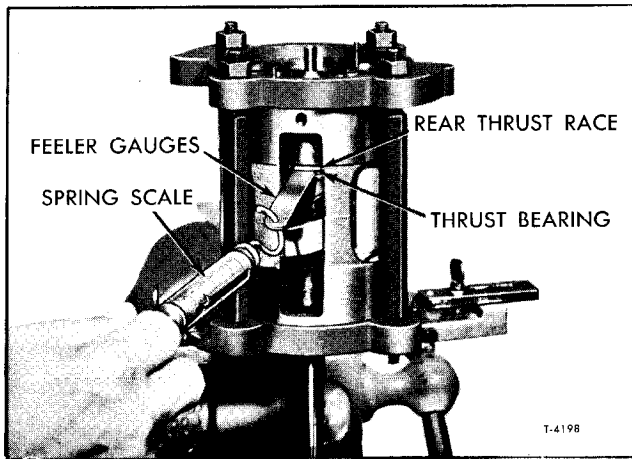

Figure 57—Checking Clearance Between Rear Thrust Bearing and Outer Thrust Race
15. The next gauging operation is to determine the space between the REAR thrust bearing and the upper (outer) rear thrust race. Use a suitable combination of feeler gauge leaves so that 4 to 8 ounces of force is required to pull gauge free (figure 57). Select